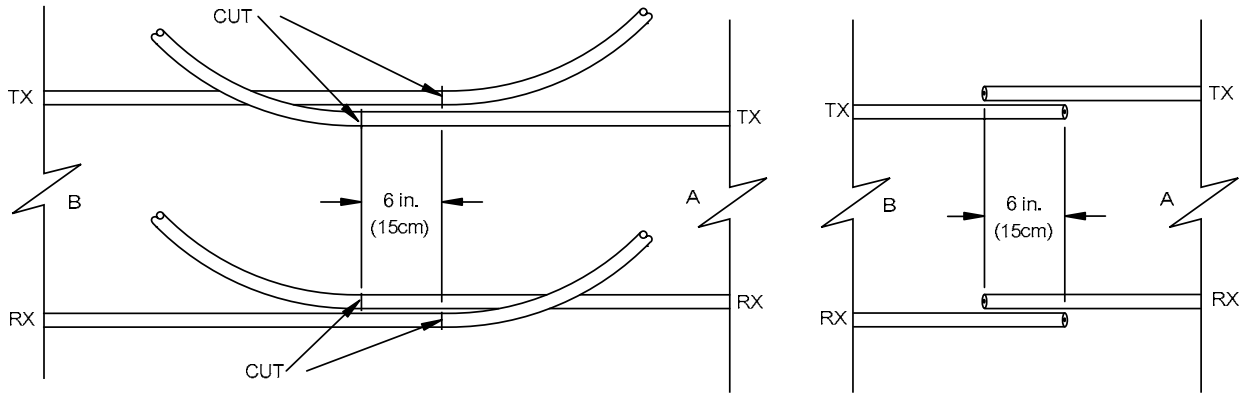

Figure 6.19 –Preparing Cables for MTI
The assembly instructions for the MTI are shown in the following steps 1 through 10 and as illustrated in Figures 6.19 to 6.24.
- Step 1:** Lay all 4 cables back in the trenches. Pull the cables tight. Cut the cables to a length that leaves an extra 6 inches (152mm) of cable when brought end-to-end. Insure that both inline terminators are located directly across from each other as shown in Figure 6.19.